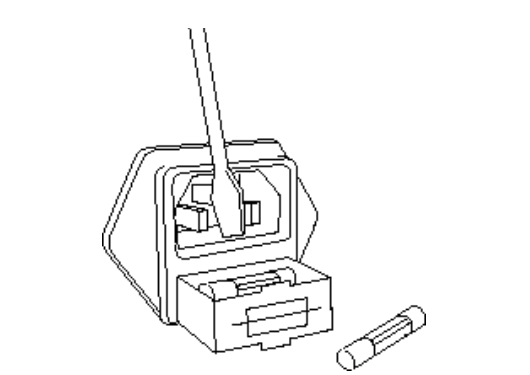

FIGURE 6
- The AC power fuse is intact and has not blown. If the fuse has blown, the thin metal conductor will have melted and the glass may appear “smoked”. If the fuse has blown, replace with a fuse of the same rating (10 Amp/125V slow-blo for 100 to 120 volt countries and 5 Amp/250V slow-blo for 220 to 240 volt countries). (See Figure 6)